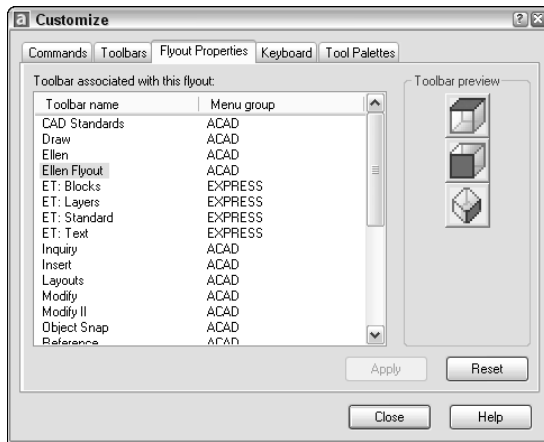

Figure 29-10: The Flyout Properties tab of the Customize dialog box
4. Click the Properties tab of the Customize dialog box and then click the blank flyout button to display the Flyout Properties tab, shown in Figure 29-10.